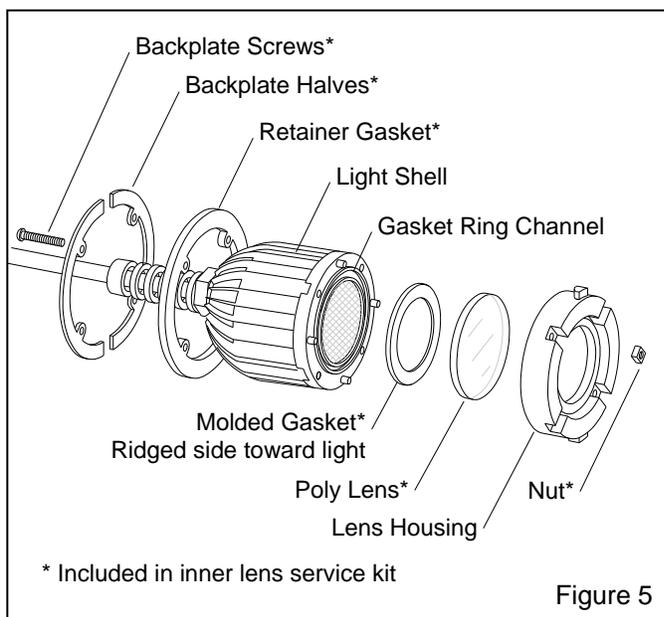

Figure 5
**5.2 Removing and Servicing the Inner Poly Lens and Lens Housing, refer to Figure 5**
Note: The inner lens service kit include all items shown with an asterisk in Figure 5. The following instructions assume all the service kit items will be replaced.